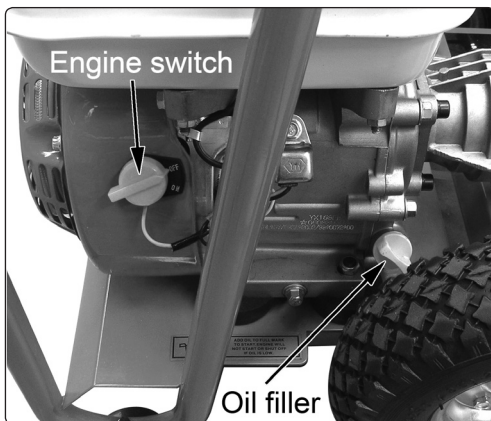

fig.7
- 6.1.5. Rotate the engine switch clockwise to the ON position. See fig.7.
- 7.1. Clean gun nozzle with a suitable rigid piece of wire (fig 7). Detach lance from gun, remove any dirt from the nozzle head and rinse with clean water. If this does not improve the flow from the nozzle it should be replaced.